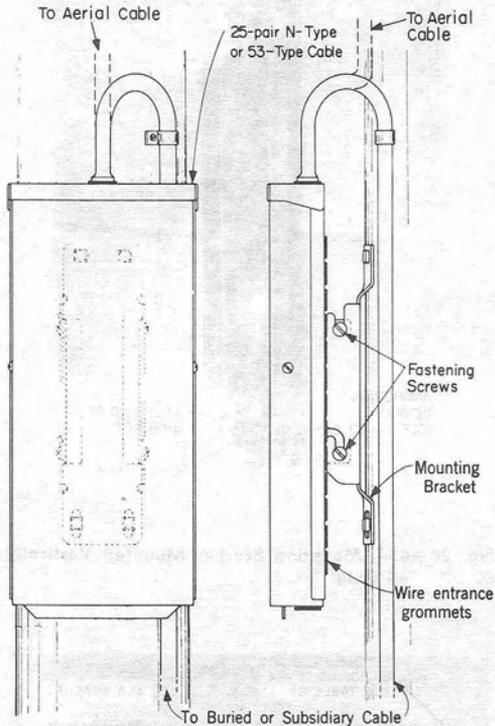

Fig. 26—Installing Cable Terminal on Pole Mounting Bracket
- (1) Back off the four fastening screws (Fig. 26, on the back of a terminal sufficiently to engage into the slots of the mounting bracket.
- (2) Place the terminal on the mounting bracket and tighten the screws to secure the terminal.
- (3) Terminals are furnished with stub on top. Mount the terminal as shown in Fig. 26 and 27.